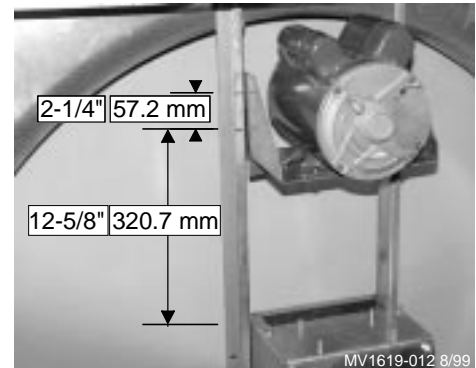

Figure 3. Bolt Hole location with Motor Mounted
7. Secure the motor on the new motor mount bracket using carriage bolts, flat washers, and lock nuts provided, **see Figure 3**.